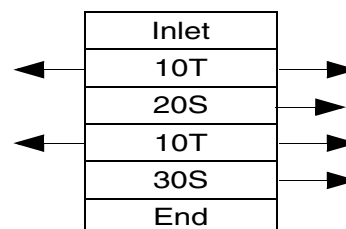

FIG. 14
- a. Before disassembling any divider valve, make a sketch noting the arrangement of Valve Sections. For example: INLET 10T - 20S - 10T - 30S - END (FIG. 14). Also remove end plugs only and try to move each piston back and forth without removing the piston from the valve section.